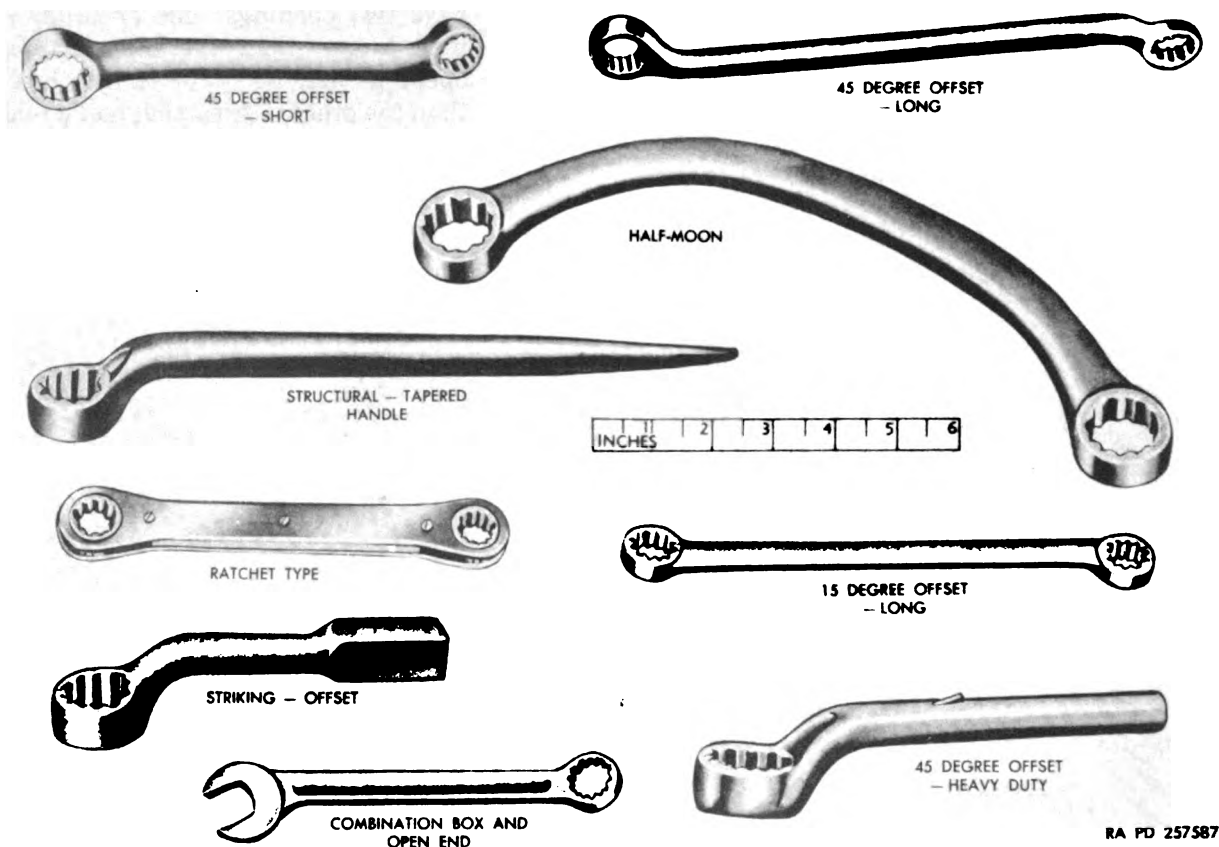

Figure 117. Box and combination wrenches.
(2) *Box wrenches.* Box wrenches (fig. 117) are so named because they completely surround or box the bolt head or nut. The opening in a box wrench contains 6 or 12 notches, called points, arranged in a circle. The box wrench is a safer tool than the open-end wrench, since it will not slip off the work. As little as one-twelfth of a turn can be taken at each stroke if necessary in close quarters. Box wrenches may have straight handles, they may be offset, or the box end may be offset. Box wrenches are available in the same sizes as are open-end wrenches ((1) above) and usually
- (3) *Combination open and box wrenches.* Combination wrenches (fig. 117) have one open end and a box wrench at the other end. Combination wrenches may be made with any combination of sizes, offsets, and angles, as discussed in (1) and (2) above.